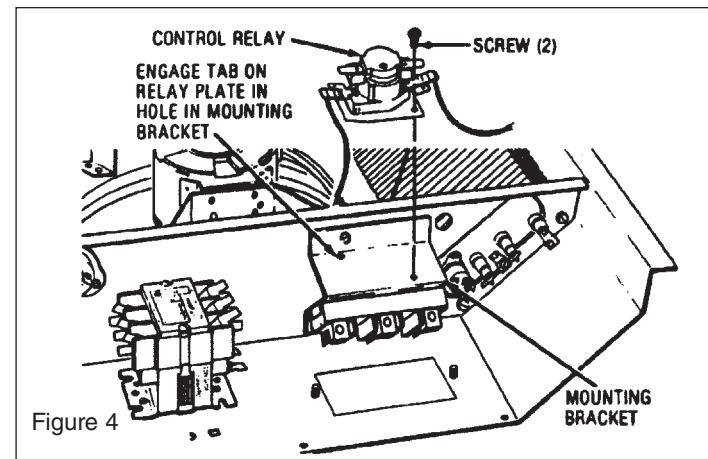

Figure 4
- Install the Control Relay as shown in Figure 4.